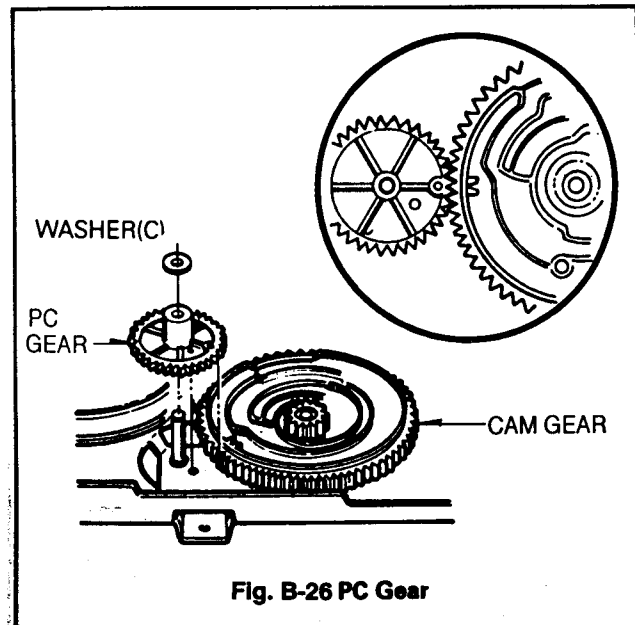

Fig. B-26 PC Gear
- ① Align the Projection of Rack Gear T with the hole of Loading Gear.
- ② Drive the Rack Gear F.L in the direction of arrow(D).
- ③ Hole of Cam should be aligned with the hole of chassis, and the groove(■) of Cam Gear should be aligned with the hole of PC Gear (Fig. B-26).
26. PC Gear (Fig. B-26)
- ① The Groove of PC Gear should be aligned with the groove(V) of Cam Gear, and another hole of it should be aligned with the hole of chassis (Fig. B-26).